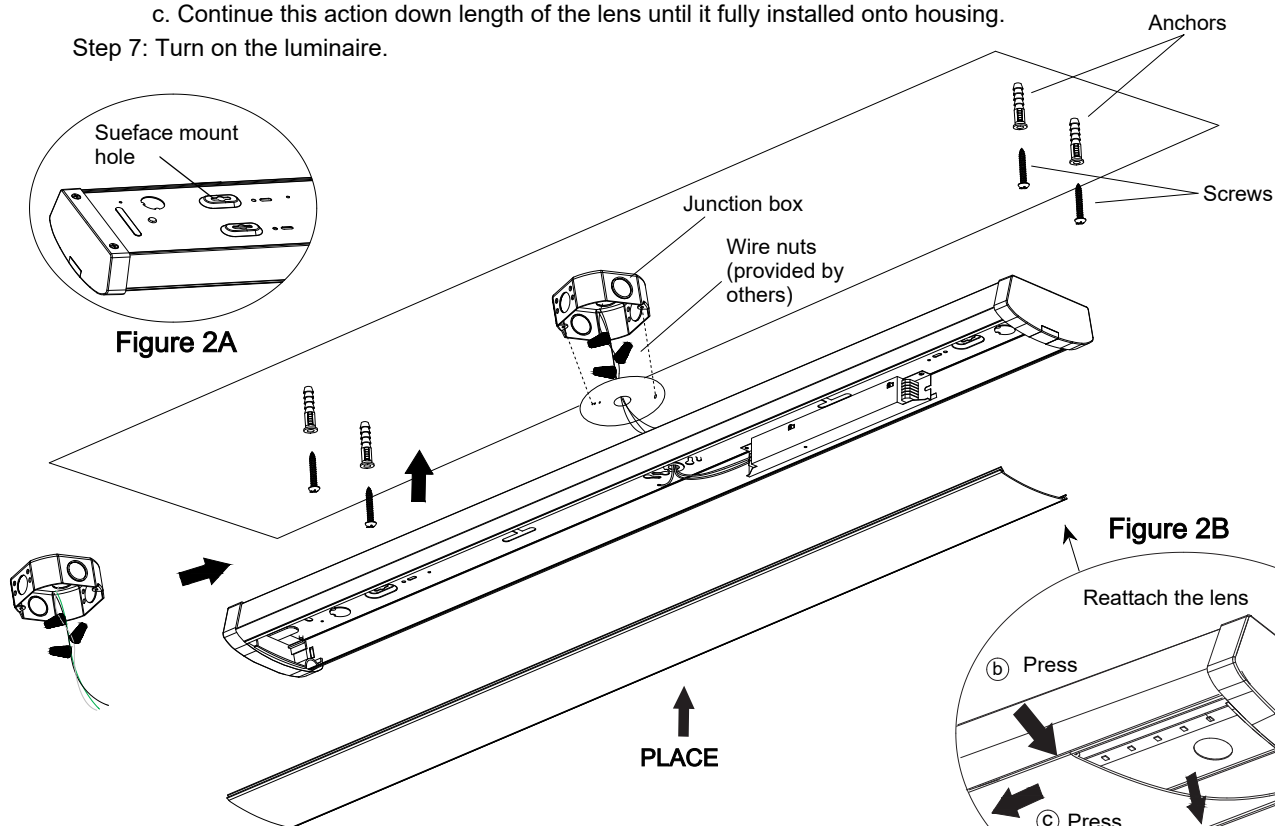

Figure 2
Step 3, Insert the terminals into the approved sensor. (Fig. 2)